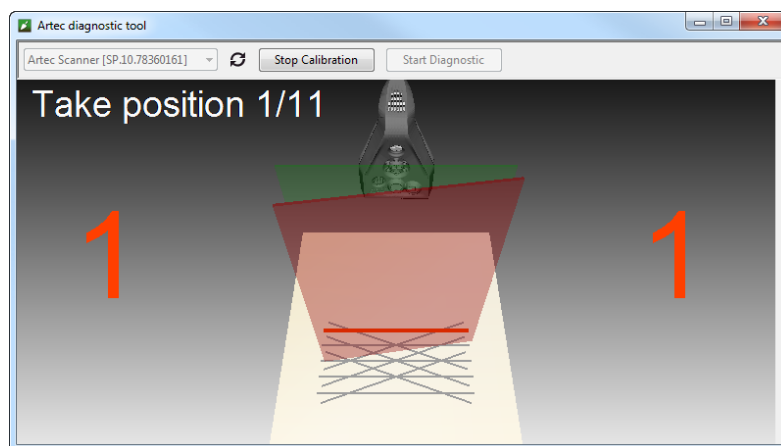

Figure 11.11.: Moving calibration rig to position number 1.
7. Place the rig in its initial position such that the front edge of its base coincides with the color line numbered 1 on the pattern. As you do so, also keep an eye on the *3D View* window for a red plane (current position) and a green plane (target position)—see Figure 11.11.. Once the red plane coincides with the green one, stop moving the rig and wait for the scanner to capture the plane.